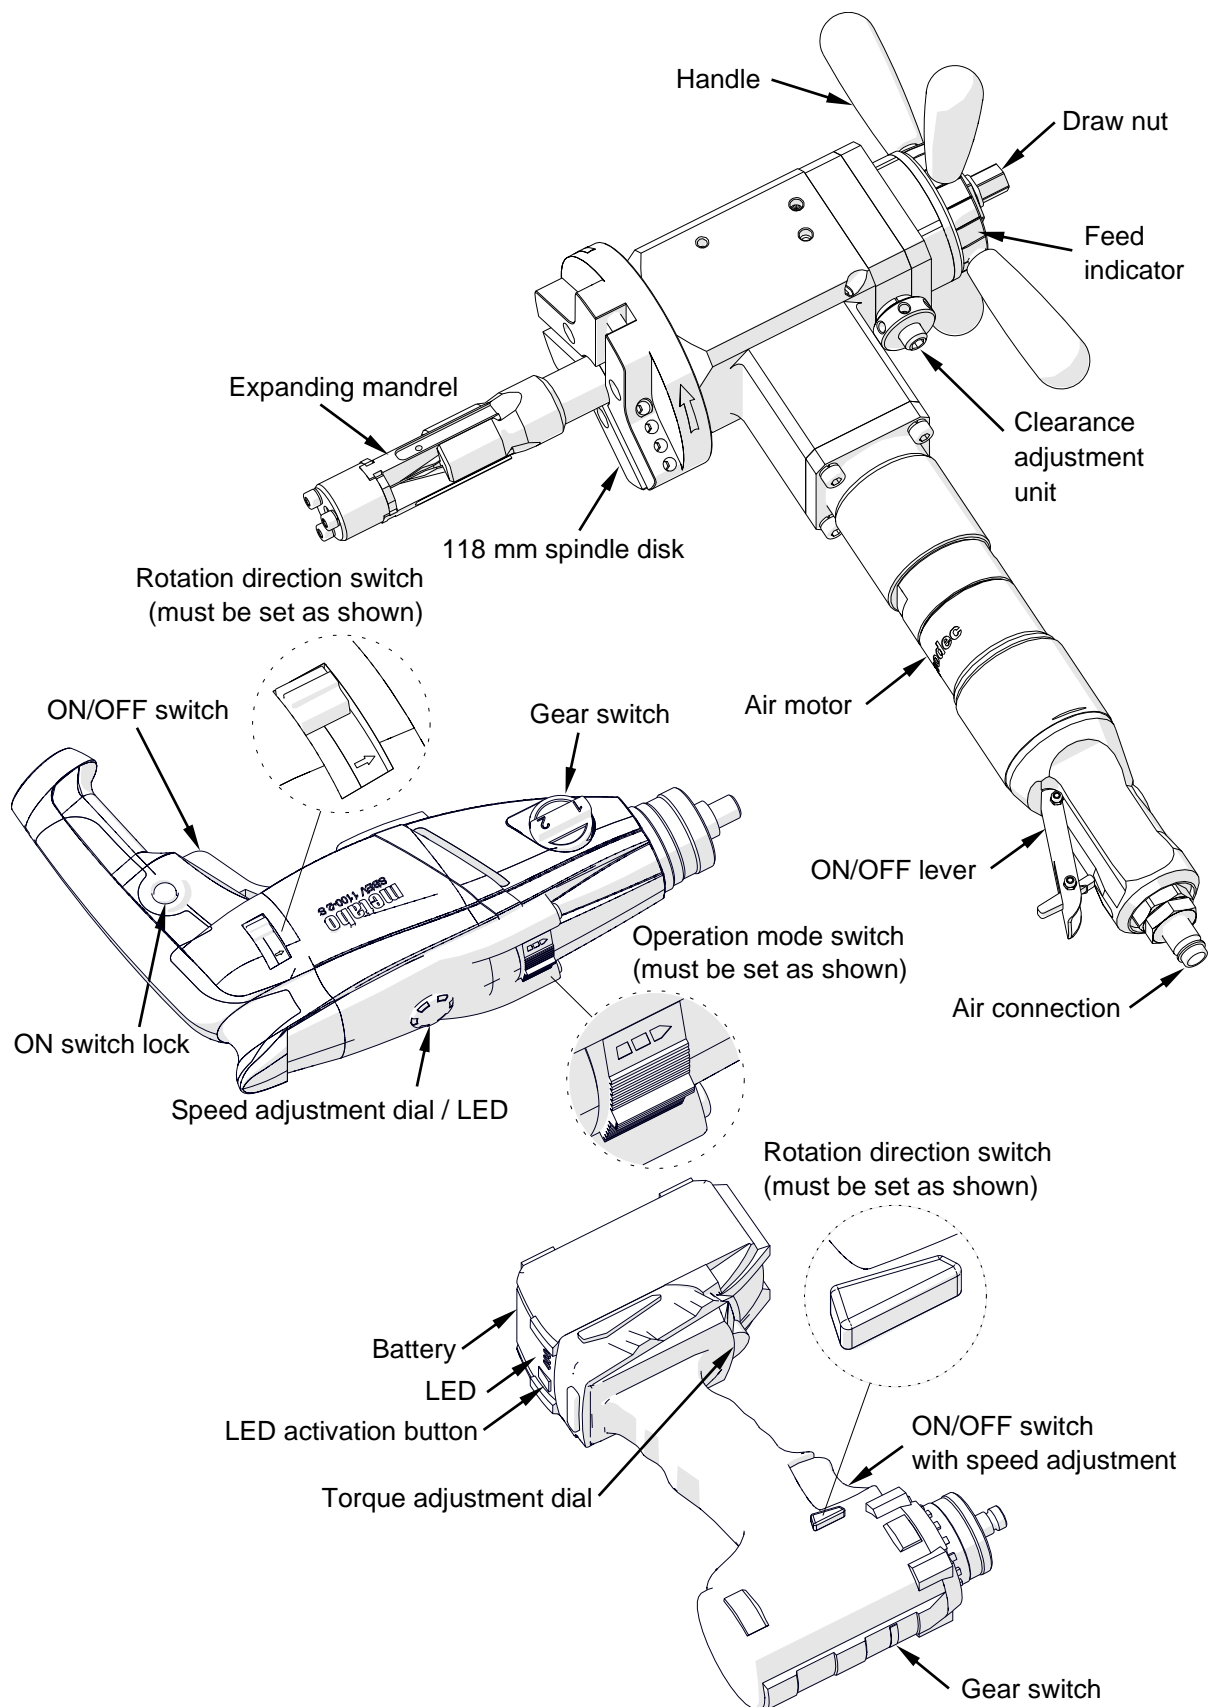

Fig. 1. View of PB-5 and of PBE-5 electric motor and PBC-5 battery motor
20. Use an electric/battery motor only after you set the rotation direction switch and the operation mode switch as shown in Fig. 1. Using left rotation or impulse mode (the switches set to the opposite positions) can damage the machine.
In the electric motor, set the rotation direction switch as shown in Fig. 1. In the battery motor, set the rotation direction switch and the operation mode switch as shown in Fig. 1.